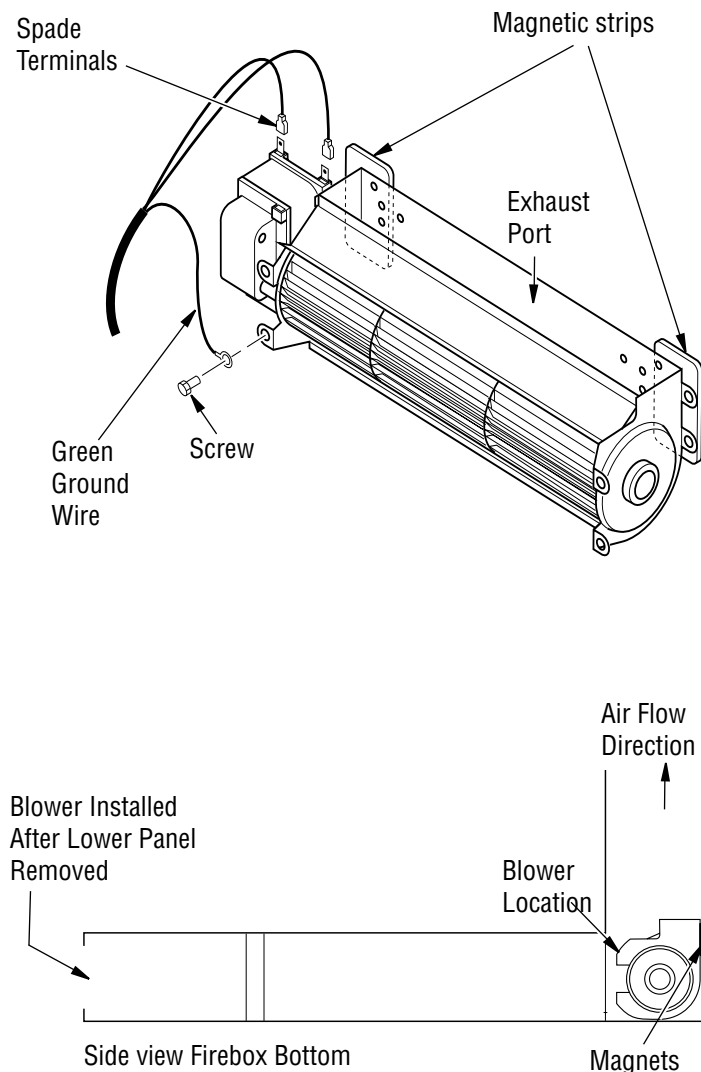

Figure 7: Blower Model BK
1. Attach the power cord to the blower motor by firmly pushing the two female terminals at the end of the power cord onto the two spade terminals on the blower motor (see Figure 7).
2. Attach green ground wire from power cord to blower housing using screw provided (see Figure 7) Tighten screws securely with a Phillips screwdriver.
3. Place the blower against the lower rear wall of the firebox outer wrapper with the exhaust port directed upward. Depending on your model, you may have to carefully route the blower assembly past the controls and brackets, and position the blower inside the back opening. The blower will be held in position against the back wall by the magnets incorporated onto the blower housing (see Figure 7).